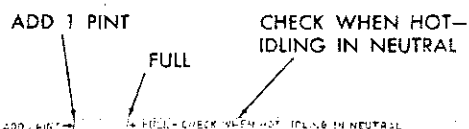

Fig. 16—Automatic Transmission Oil Level Indicator
(1) With the parking brake on the engine idling, depress each push button momentarily, ending with the "N" (Neutral) button pushed in.
(2) The fluid level should check slightly below the full mark, but never above the "F" mark when the engine is at its normal warmed condition described above. Add or remove the fluid as necessary to bring to this level. (Fig. 16).